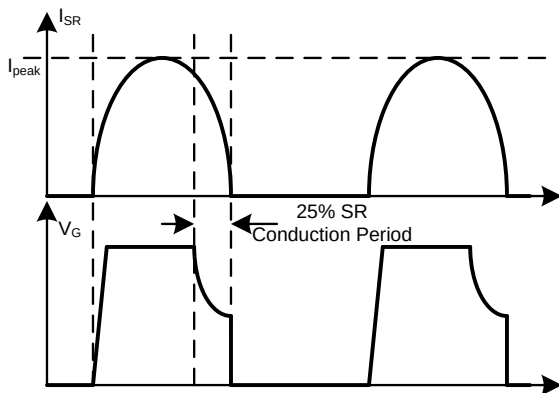

Figure 11: Synchronous Rectification Typical Waveform in LLC
Figure 11 shows the typical waveform of the LLC on the secondary side. To achieve a fairly high usage of the MOSFET's $R_{DS(ON)}$, it is expected that the MOSFET driver voltage is kept at the maximum level until the last 25% of the SR conduction period. V_{DS} can be calculated using Equation (2):